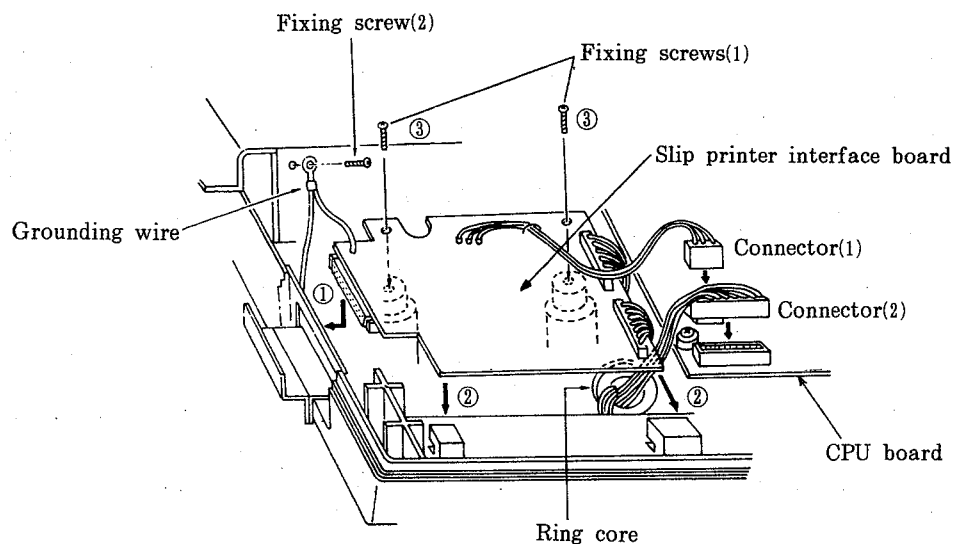

Fig. 42
- 7) Connect the connectors (1) and (2) of the slip printer interface board with the connectors (CN5) and (CN6) on the CPU board respectively. (See Fig.42.)